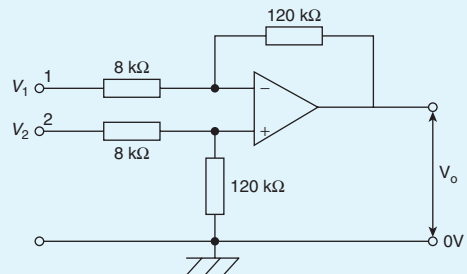

Figure 19.21
5. In the differential amplifier shown in Fig. 19.21, determine the output voltage, V_o , if: (a) $V_1 = 4\text{ mV}$ and $V_2 = 0$ (b) $V_1 = 0$ and $V_2 = 6\text{ mV}$ (c) $V_1 = 40\text{ mV}$ and $V_2 = 30\text{ mV}$ (d) $V_1 = 25\text{ mV}$ and $V_2 = 40\text{ mV}$